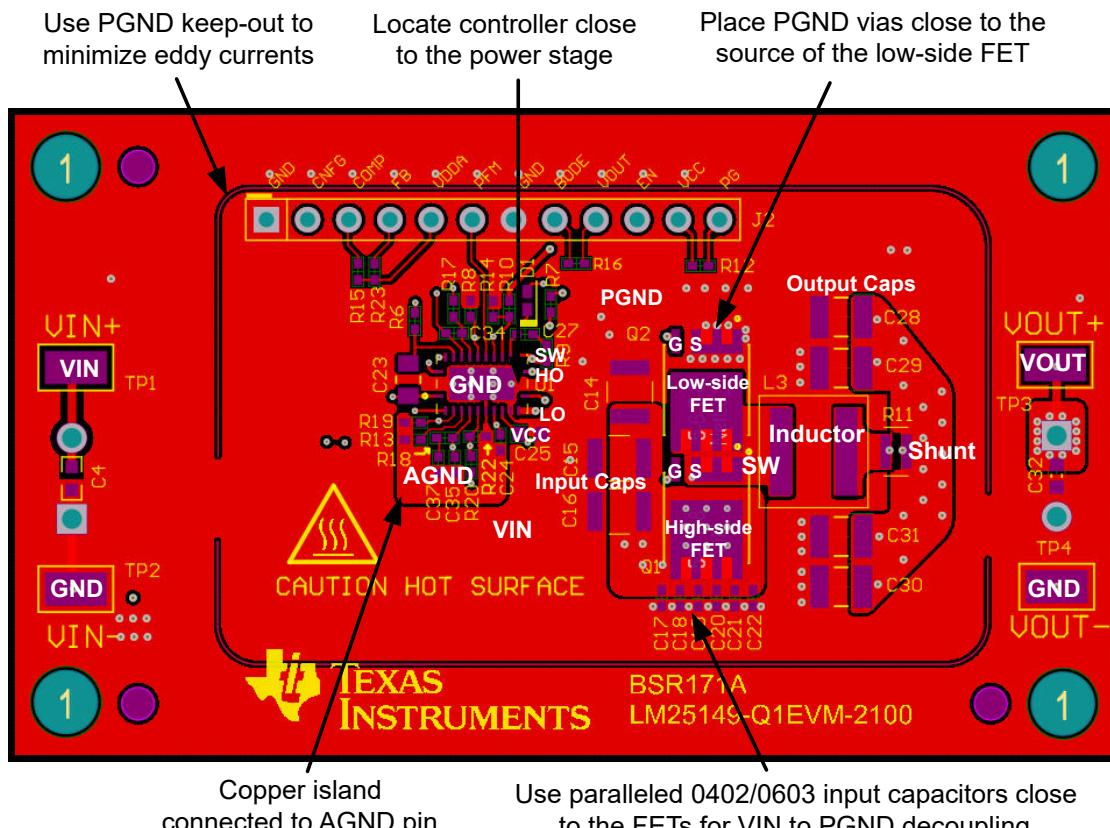

图 9-48. PCB Top Layer - High Density, Single-sided Design
- Connect AVSS to a quiet GND connection, further from IC if possible. Keep decoupling capacitor  $C_{AEFVDDA}$  close to the AEFVDDA pin and AVSS GND connection. See capacitor C23 in 图 9-48.
图 9-48 shows a single-sided layout of a synchronous buck regulator with discrete power MOSFETs, Q1 and Q2, in SON 5-mm × 6-mm case size. The power stage is surrounded by a GND pad geometry to connect an EMI shield if needed. The design uses layer 2 of the PCB as a power-loop return path directly underneath the top layer to create a low-area switching power loop of approximately 2 mm2. This loop area, and hence parasitic inductance, must be as small as possible to minimize EMI as well as switch-node voltage overshoot and ringing.
- Make the ground connections to the LM5149 controller as shown in 图 9-48. Create a power ground directly connected to all high-power components and an analog ground plane for sensitive analog components. The analog ground plane for AGND and power ground plane for PGND must be connected at a single point directly under the IC – at the die attach pad (DAP).